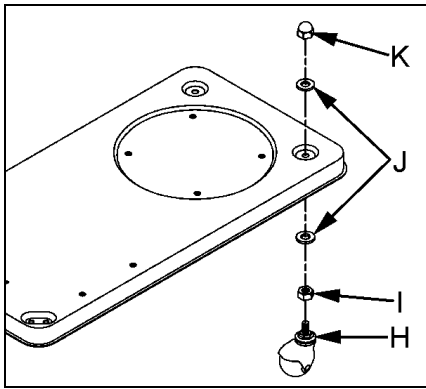

Fig 4
Install two swivel casters to the under side of the base with washers and nuts (Fig 4)
Mount support cylinder (L, Fig 4) to base (M) with four bolts and washers (N).